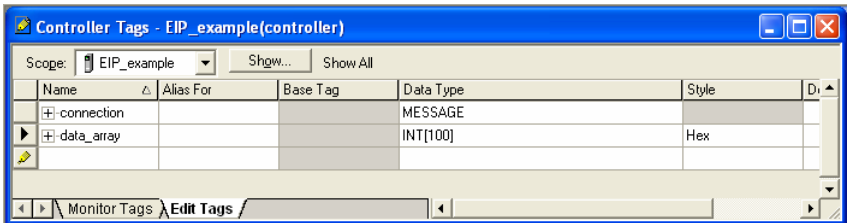

Figure 40: Create New Tags
- b) The “Controller Tags” window appears. Refer to Figure 40.